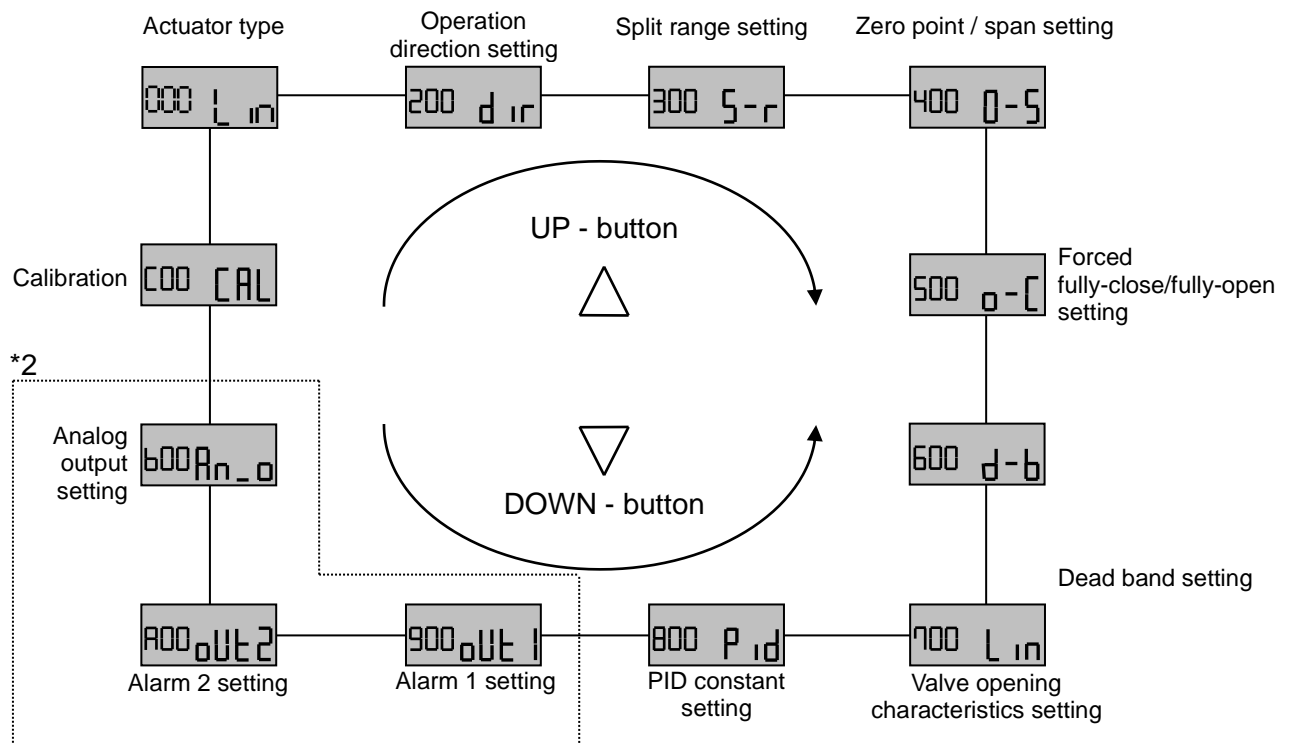

Fig.22
- (1) When an input current is entered for the first time, only the parameter mode can be selected. According to "Initial Adjustment", calibrate the positioner.
- (2) After (1), the auto mode is displayed first when an input current is entered.
- (3) The parameter code is shown in Fig. 22. The standard type and HART communication type has 8 setting items. The output function type and ATEX type has 11 setting items. Select the parameters in order with the UP / DOWN button ( $\nabla$  or  $\Delta$ ).
- (4) Parameters stop with parameter codes flashing, and the codes can be changed by pressing the set button ( $\text{C} + \Delta$ ) for 1sec. or more. Push the UP / DOWN button ( $\nabla$  or  $\Delta$ ) to modify a value. After the value is decided, push the mode button ( $\text{C}$ ) to go back to the parameter code flashing status\*1.
- (5) To enter the lower hierarchy, hold down the set button ( $\text{C} + \Delta$ ) for 1sec. or longer. To go back, hold down the mode button ( $\text{C}$ ) for 1sec. or longer, to display a sub menu.
- (6) See the next page, "Parameter Code Detail" for detail of parameter codes.
\*2: The parameter surrounded by a broken line in Fig. 22 will not be shown for the standard type (IP8001-0\*0) or the product with HART communication (IP8001-0\*3).